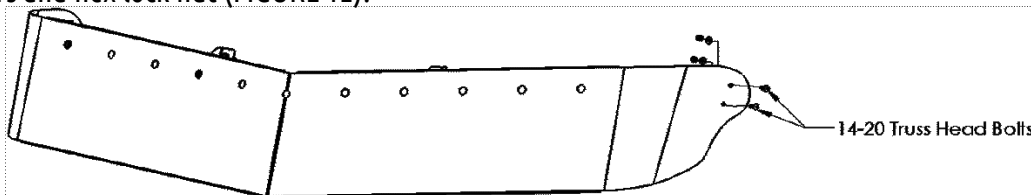

FIGURE 12 – End Bracket bolts
8. Peel plastic around outer End Bracket bolt holes, and fasten visor skin to End Brackets with the supplied 1/4-20 truss head bolts, flat washers and hex lock nut (FIGURE 12).